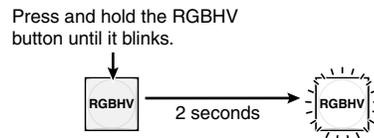

Figure 3-38 — Select RGB Delay mode
2. Press and hold the RGBHV button for approximately 2 seconds (figure 3-38).